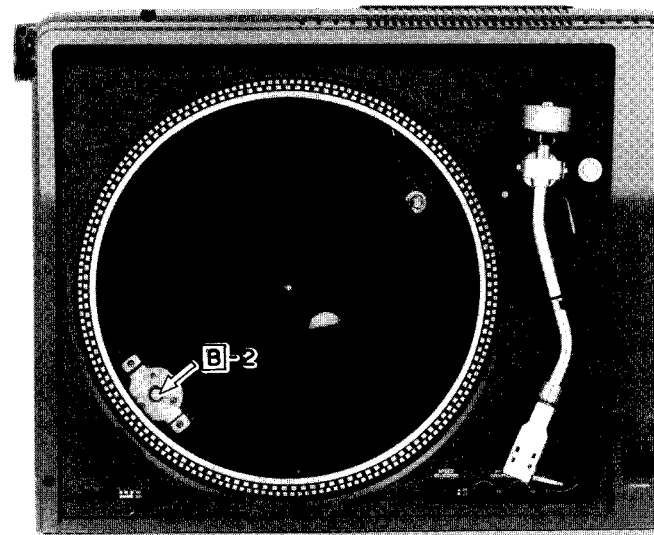

Figure 2
- * Refer to Figures 2 and 3.
2. The belt becomes visible on the motor pulley when the turntable is rotated: remove the belt. (Refer to Figure 2)
4. Lift up the player unit, and disconnect two (2) sockets (CNS51, CNS702)